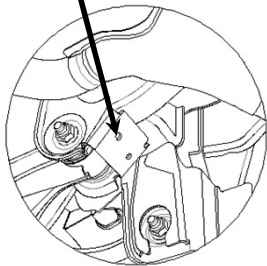

Figure 3
1. Remove the existing inner tailpipe hanger 8mm bolt, and replace with supplied 8mm bolt (item 1). Both sides. Tighten bolt to specification. Hang 1/2" flat washers (2 each side) over weld nut on 8mm bolt. Return bolt/s to owner.
2. Install forward hitch bracket "A" or "B" as shown. Slide "**handle-nut**" (item 10) behind the vehicle cross-member on the driver's side, using the 1/2-13 X 1.5 bolt (item 8) and attach the forward bracket that's called out for the vehicle. Hand tighten only.
•On Buick LaCrosse and Cadillac XTS enlarge rearward hole on vehicle suspension mount to accept a 1/2 bolt. See Figure 3
3. Raise rearward section of the hitch into place, over 8mm bolts (installed in step 1) sandwiching the 1/2" flat washers between exhaust hanger and hitch bracket. Attach the 3/8" conical washers & M8 hex nuts (item 3 & 4) to bolts. Hand tighten only.
4. Install the 1/2" carriage bolts (4) into the plate on the hitch's support plate.
6. Attach the opposite end of the center section to the forward bracket with the 1/2" bolt & 1/2" conical washer (item 9 & 3) install from the bottom. Attach the 1/2" conical washer and 1/2" hex nut. The center section is designed to pivot, for better installation.